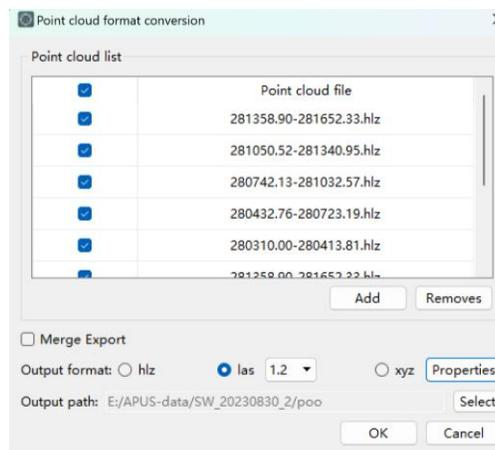

Figure 3-174 Point cloud format transform
- Click <Toolbox> → <Format Transform> → <Point Cloud Format Transform> on the main interface, and a dialog box will pop up (Figure 3-174).